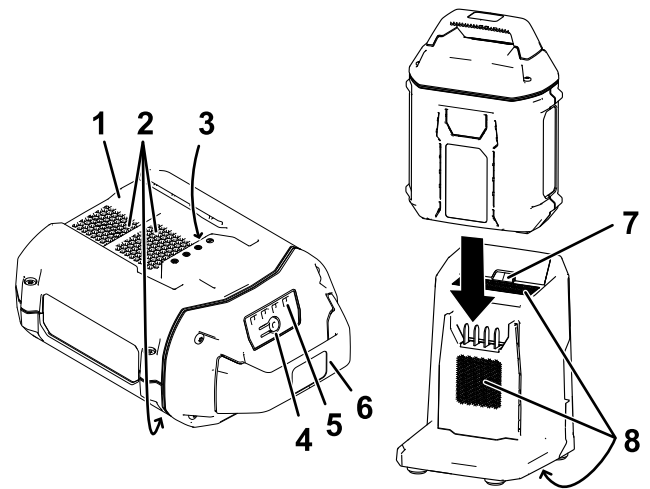

Figure 6
2. Line up the cavity in the battery pack (Figure 6) with the tongue on the charger.
3. Slide the battery pack into the charger until it is fully seated (Figure 6).